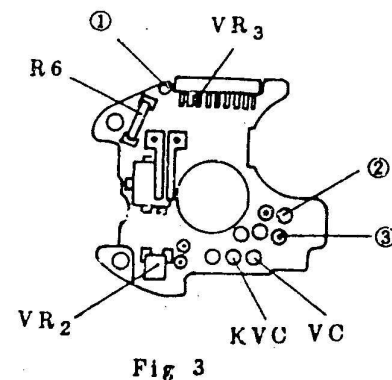

Fig 3
- 5.1 In the wound condition the separation of the armature lever and drive lever is 0.2mm or more. (Fig. 3)
5. V AVO Output Check (Checkpoint Fig. 3 #1)
5.1 Check the output at 1 (Fig. 3) for each maximum aperture pin height (AVO). It should be the produce of VC times the number listed below +/-4mV.
6.1 Turn the ASA resistor so that the output at #2 (Fig. 3) is 1.2VC. This is the ASA 100 position. If the position is not pre-marked, make a reference mark on the edge of the resistor disk.
- 7.2 Check the output at #3 (Fig. 3) with the light source at EV 9 and EV 15 and record the values as V EV9 and V EV15.